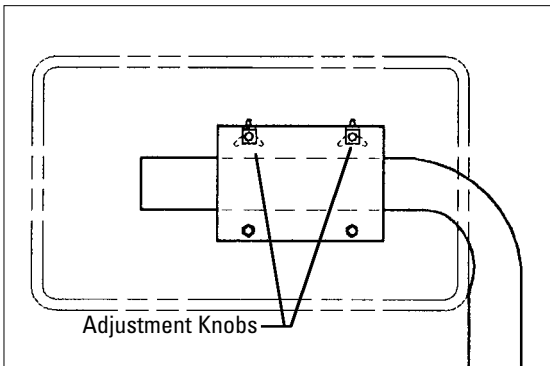

Figure 2 - Control Pod Adjustment Knobs
1. Install the two (2) hood springs.
2. Mount hood using the three (3) hex bolts (3/8-16 UNC x 1"), matching hex nuts and lock washers supplied in the accessory box.
4. Install and tighten the four (4) accessory pegs and hang the accessories.
8. Loosen the two adjustment knobs on the back of the control pod (Figure 2).